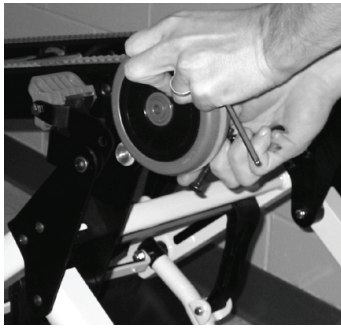

Figure 6 – Remove the wheel assembly
3. Using a 1/2" wrench and a 3/16" hex key, remove the button head cap screw, nut, spacers, and wheel from the frame on the same side as the parts removed in step one (Figure 6).